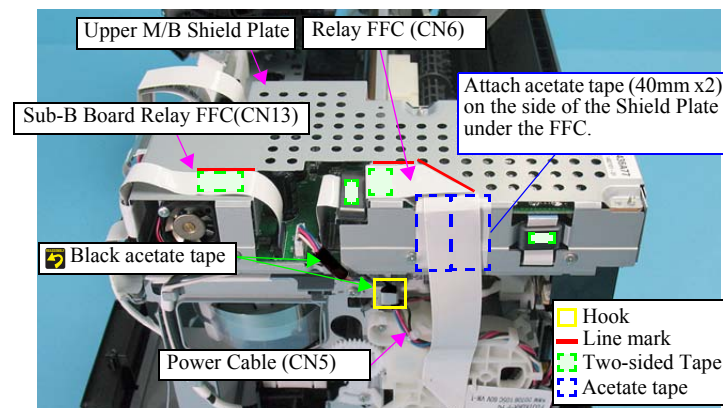

Figure 4-59. Routing Cables around the Main Board. Unit (2)
- Two portions where secured with the hooks on Main Board. See Figure.4-59.